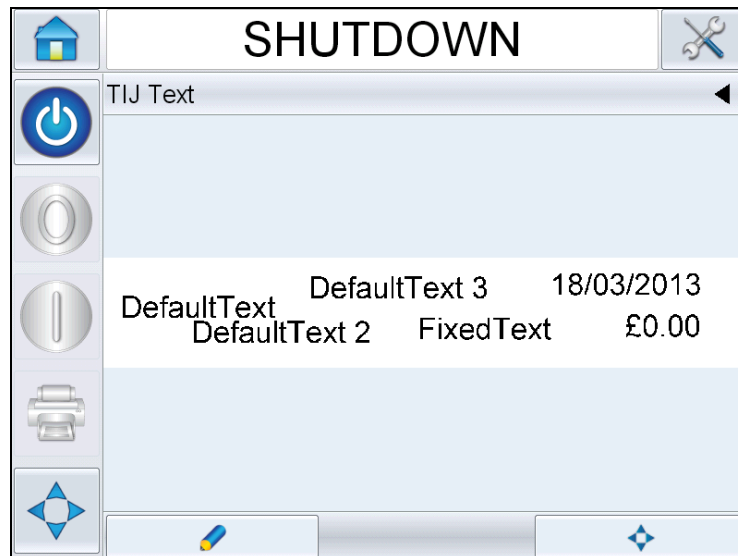

Figure 6-9: Message preview
- 1 Select the 'Current Job Details Bar' to display the job preview (see Figure 6-9).